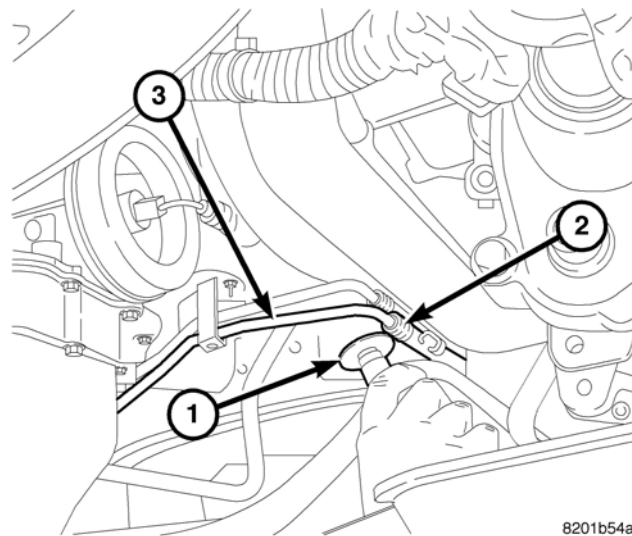

Fig. 16 CUTTING TRANSMISSION COOLER RETURN LINE CLAMP
36. Using a high speed cut-off tool, carefully cut the crimp clamps from the transmission cooler return line, (Fig. 16). Both transmission cooler return line crimp clamps need to be cut off and removed.